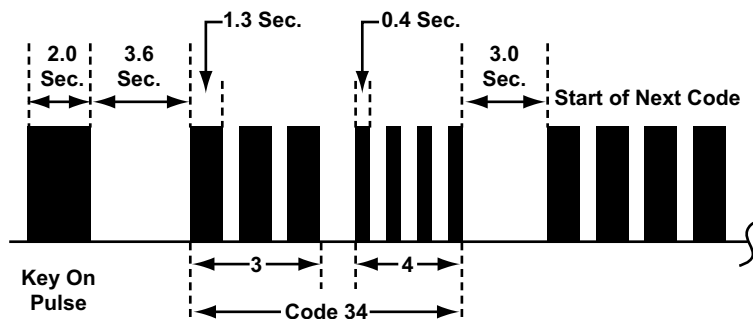

Figure 8-15 Honda ABS Code Type 04a
- Type 04a, see Figure 8-15 and Table 8-8 on page 63